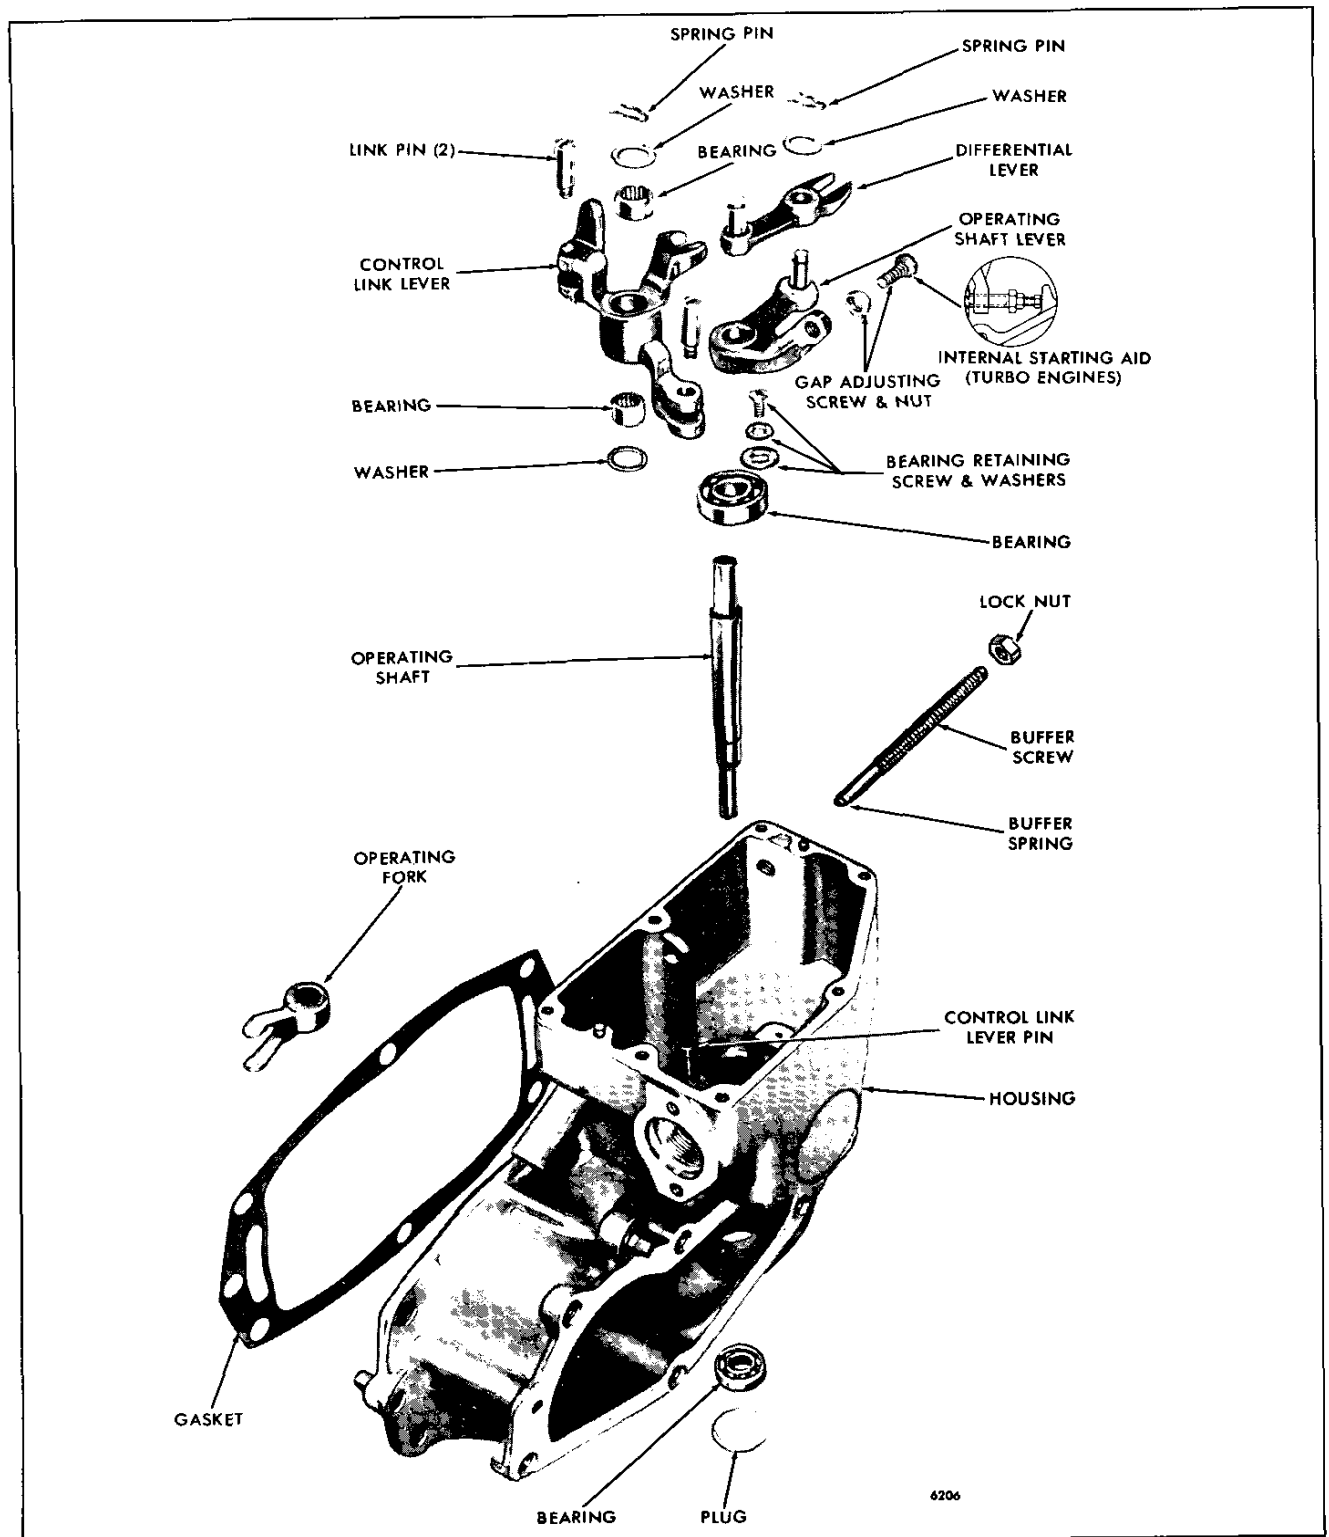

Fig. 7 – Governor Housing Details and Relative Location of Parts
To limit fuel input during engine start-up, when the speed control lever is in its idle position, the turbocharged engines use a starting aid screw (Fig. 7).
2. Remove the spring pin and washer from the control link lever pin (Fig. 7) and withdraw the control link lever and washer.